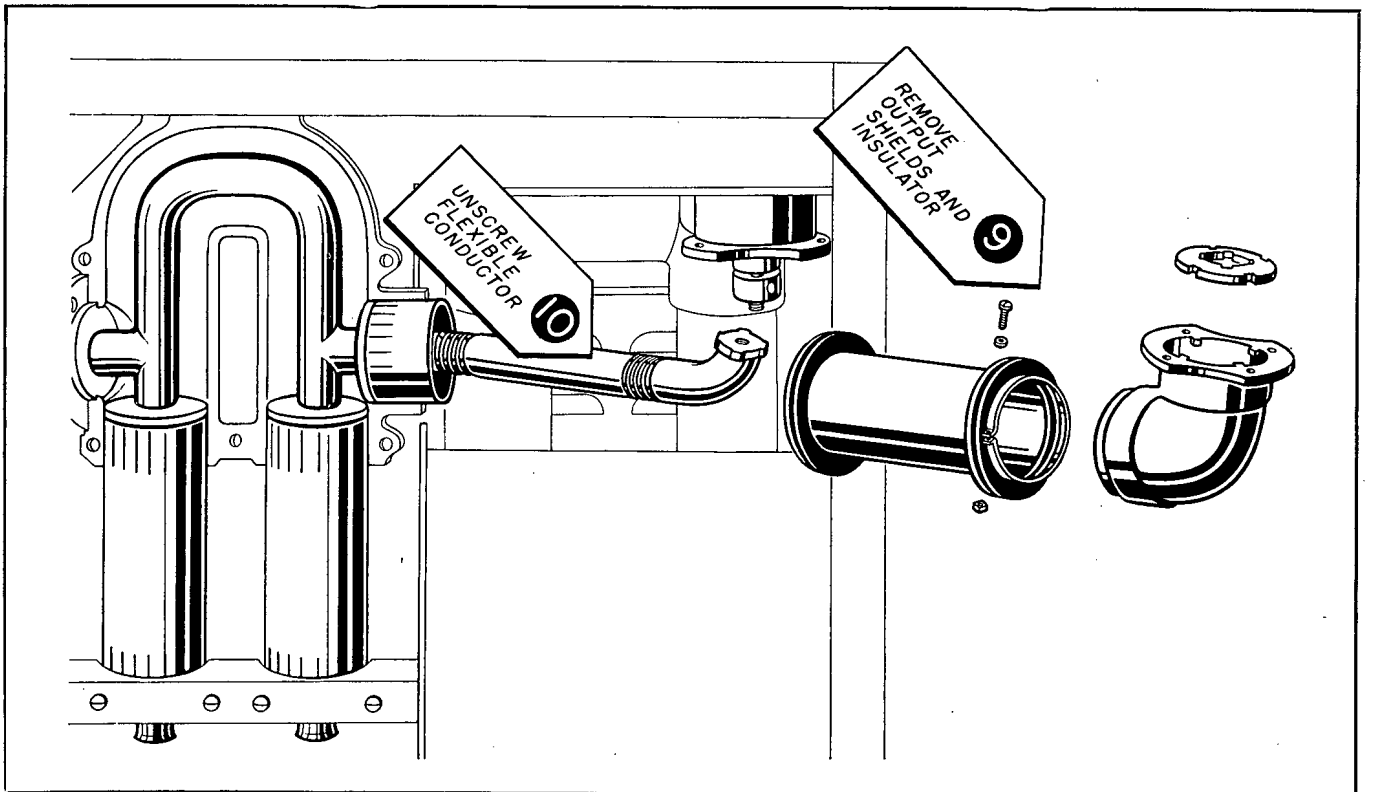

Figure 7-26. Removal of Oscillator Line
(3) The flexible coupling is now ready for removal. Gently pry the insulator out as shown in step 9 in Fig. 7-26, and take the elbow off. Then slide the shield or outer conductor off over the inner conductor. Since the flexible conductor has two flexible bellows-type joints, it should be supported during this operation. Step 10 in Fig. 7-26 shows the removal of the flexible inner conductor. The part screws into the